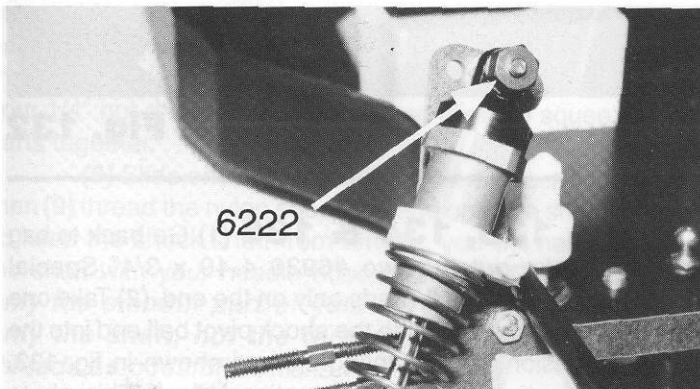

**Fig. 133**
**Figs. 133, 134 & 135** (1) Go back to bag #6-1 and take out the two #6930 4-40 x 3/4" Special SHCScrews that have threads only on the end. (2) Take one of the front shocks and slide the shock pivot ball end into the front suspension arm mounting slot, as shown in fig. 133, into the outside hole of two mounting holes. (This photo shows installing the passenger side shock.) The flange side of the steel pivot ball should be toward the rear of the A-arm. (3) Now install one of the #6930 Special screws through the front of the A-arm, the steel pivot ball (see arrow in fig. 133) and thread it into the A-arm. Be careful not to overtighten the screw, or the shock could bind. Most drivers prefer to install their shocks with the spring clamp adjusting screws on the inside, facing forward, to make adjustment easier.